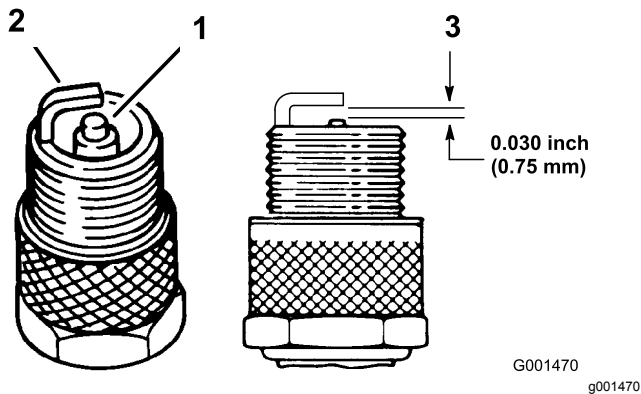

Figure 19
1. Look at the center of the spark plugs (Figure 19). If you see light brown or gray on the insulator, the engine is operating properly. A black coating on the insulator usually means that the air cleaner is dirty.
2. Check the gap between the center and side electrodes (Figure 19). Bend the side electrode (Figure 19) if the gap is not correct.
3. Connect the wires to the spark plugs (Figure 19).